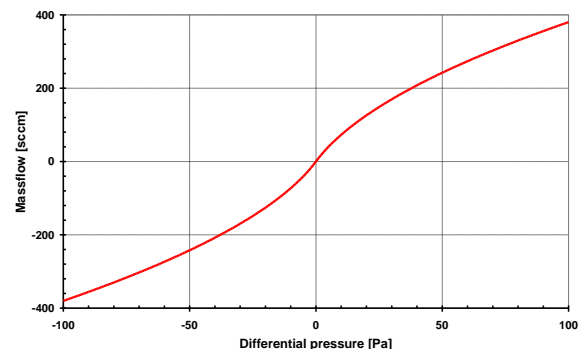

Figure 4: Differential Pressure vs. Mass Flow of ASP1400 device.
(2) Due to dynamic measurement principle (see Figure 4)
The ASP1400 is calibrated for differential pressure measurements. However, there is a well defined relation between pressure drop and mass flow. This relationship is shown in Figure 4. On request the ASP1400 can also be calibrated to measure mass flow instead of differential pressure (for more details refer to the documentation of the SENSIRION Mass Flow Meter ASF1430).